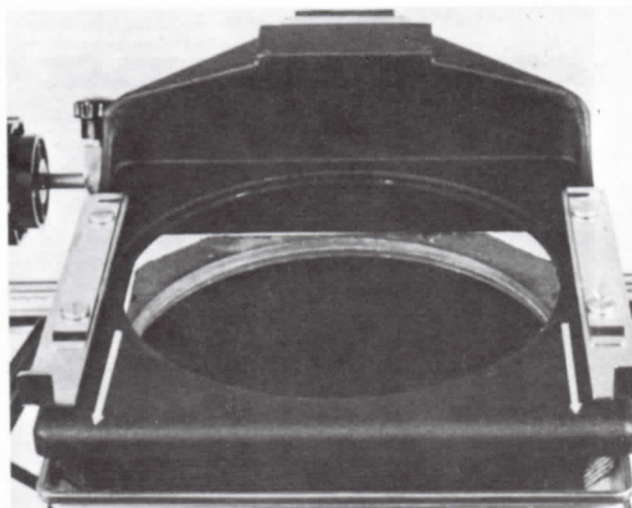

Figure 3
D. Unplug the condenser lamphouse power cord and remove the lamphouse/condenser assembly by pulling the support latches forward (see Fig. 3) and lifting the assembly clear of the enlargers. Store the assembly in a safe, dust-free place.